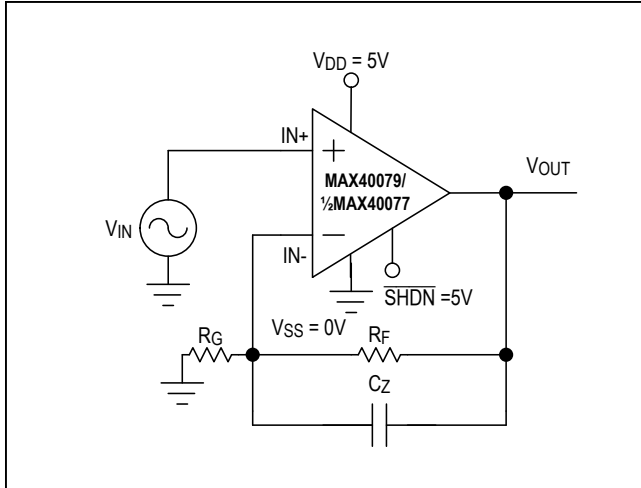

Figure 1. Adding Feed-Forward Compensation
The amplifiers input-referred voltage noise density is dominated by flicker noise (also known as 1/f noise) at lower frequencies and by thermal noise at higher frequencies. Overall thermal noise contribution is affected by the parallel combination of resistive feedback network ( $R_F || R_G$ ) depicted in Figure 1. These resistors should be reduced in cases where system bandwidth is large and thermal noise is dominant. Noise contribution factor can be reduced with increased gain settings.
The amplifier's input capacitance is 7pF and if the resistance seen by the inverting input is large (Figure 1) as a result of feedback network, this resistance and capacitance combination can introduce a pole within the amplifier's bandwidth resulting in reduced phase margin. Compensate the reduced phase margin by introducing a feed-forward capacitor (CZ) between the inverting input and the output (shown in Figure 1). This effectively cancels the pole from the inverting input of the amplifier. Choose the value of CZ as follows: